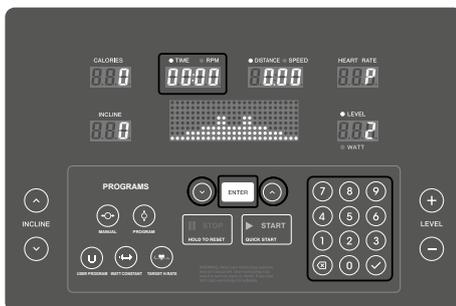

FIGURE 9
5. **Optional:** Set time, distance, and calories using the arrow keys or keypad (Figures 9–11).